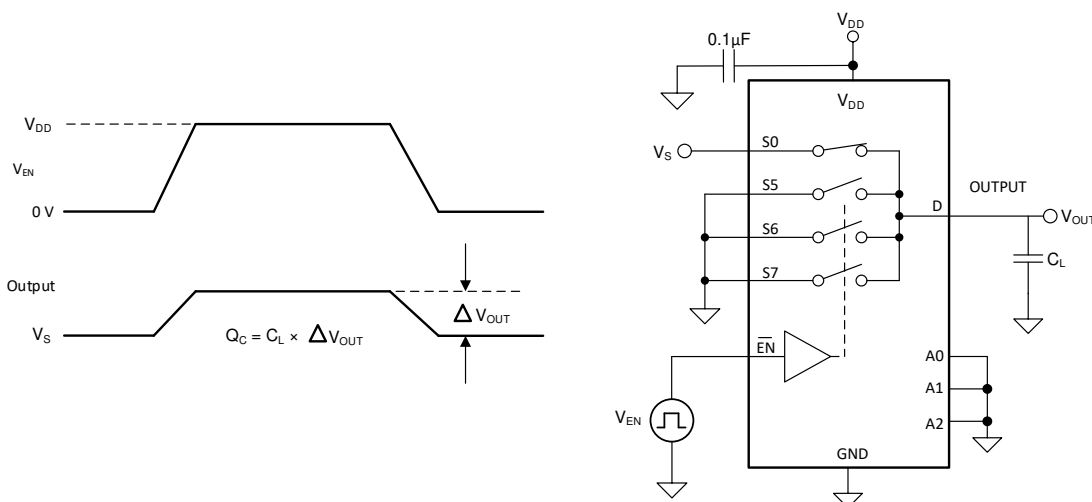

图 8-7. Charge-Injection Measurement Setup
The TMUX1308 and TMUX1309 device have a transmission-gate topology. Any mismatch in capacitance between the NMOS and PMOS transistors results in a charge injected into the drain or source during the falling or rising edge of the gate signal. The amount of charge injected into the source or drain of the device is known as charge injection, and is denoted by the symbol Q_C . 图 8-7 shows the setup used to measure charge injection from source (S_x) to drain (D).